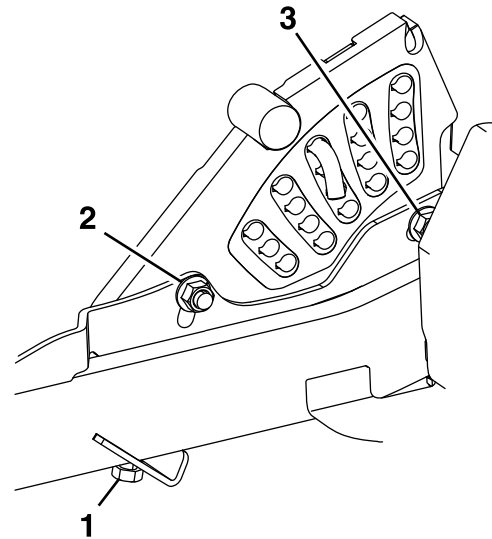

Figure 58
13. If the four deck adjusters do not have enough adjustment to achieve accurate cut height with the desired rake, the single point adjustment can be utilized to gain more adjustment (see Figure 58).